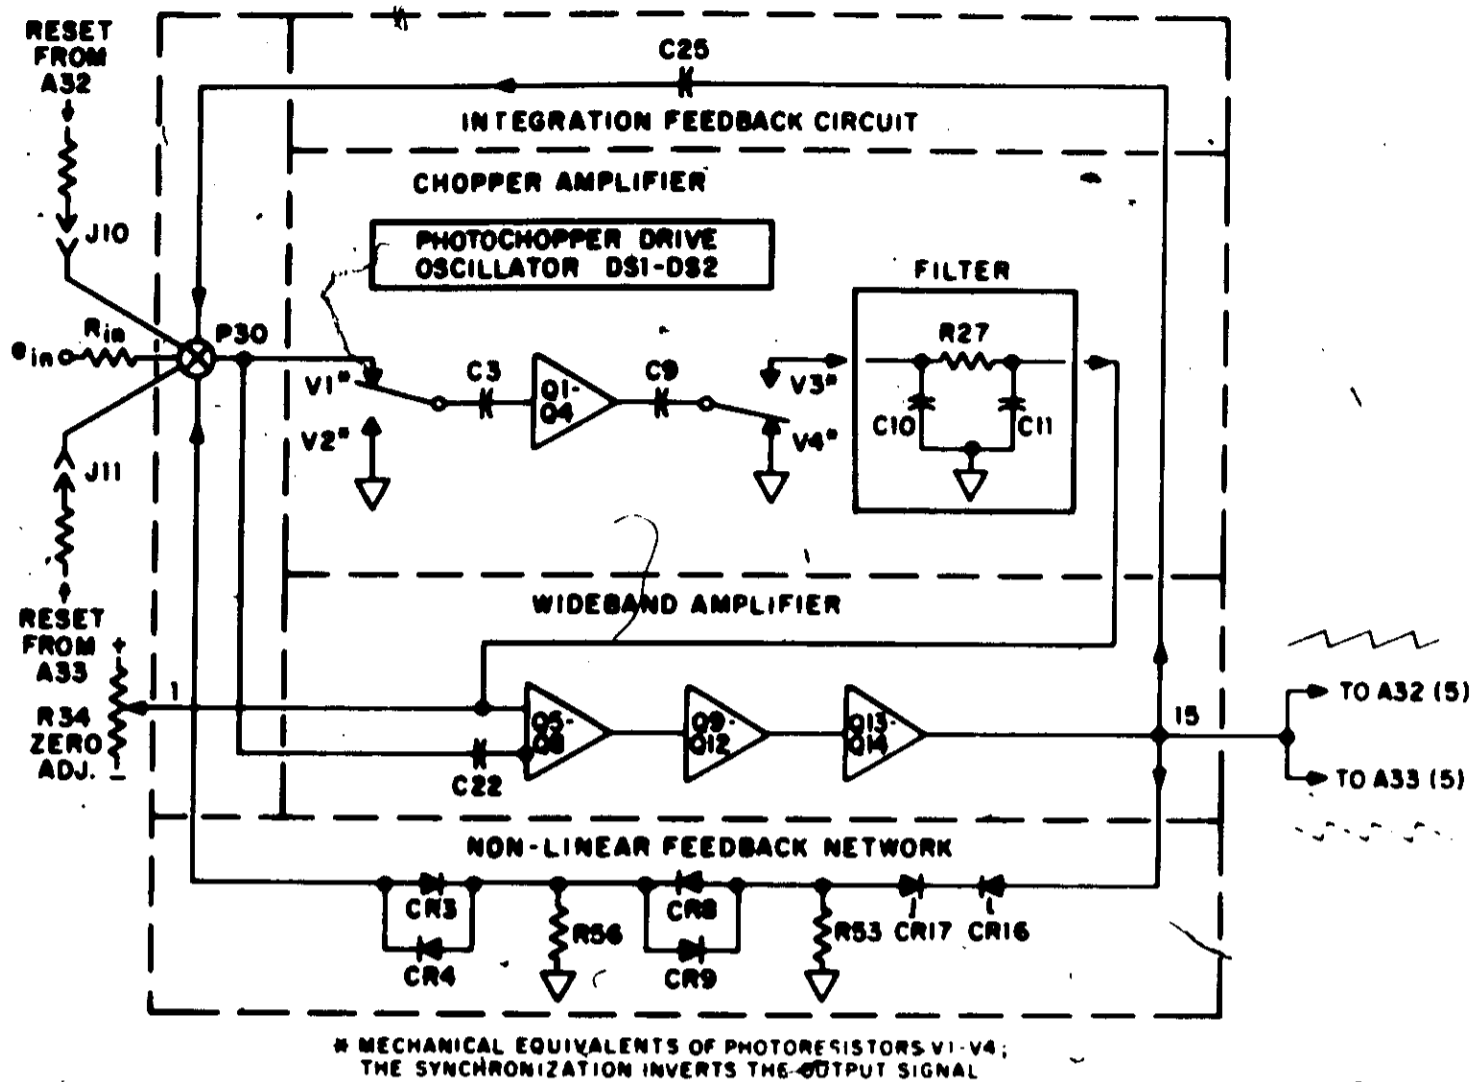

Figure 3-2. Integrating Operational Amplifier A31, Functional Diagram
3.2.2 Integrating Amplifier A31 (Figures 3-2, 4-29, and 4-30)
The functional elements of integrating amplifier A31 are shown in Figure 3-2. These include a chopper amplifier, a wideband amplifier, the integration feedback circuit, and a non-linear feedback network. The circuit diagram is Figure 4-30.
The chopper amplifier input and output are modulated and de-modulated synchronously by solid-state photoresistors V1-V4 which are driven by flashes of light from the neon bulbs of a relaxation oscillator. The oscillator frequency is set by the DRIVE OSC ADJ resistor to be 240 Hz with power line voltage at 102 or 204 vac. The photochopper mechanical equivalent is shown in Figure 3-2. After filtering, the pulsed signal from demodulating photoresistors V3 and V4 is a smooth, amplified and inverted replica of the dc and low frequency components of the signal at the summing point. The output is coupled directly to one input of the wideband amplifier. The chopper amplifier output is prevented from exceeding ± 0.5 volts by CR6 and CR7.